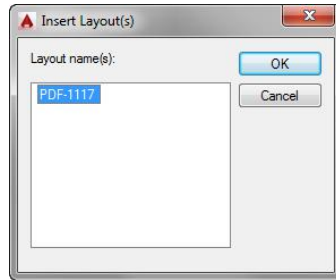

FIGURE 14.18: Selecting the layout to use as a template
- The Insert Layout(s) dialog box opens, and it lists each of the layout tabs in the selected template drawing. Choose the PDF-1117 (PDF-A3) option shown in Figure 14.18, and then click OK.